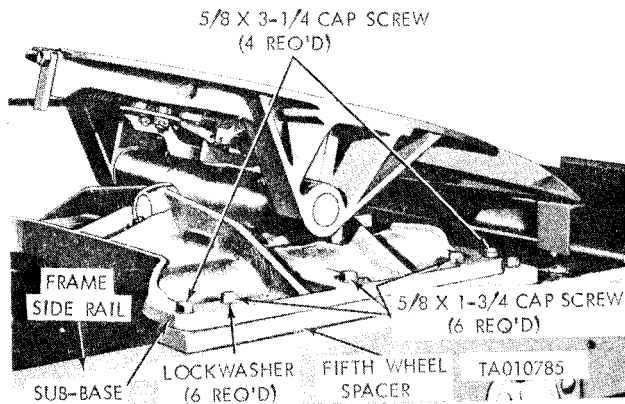
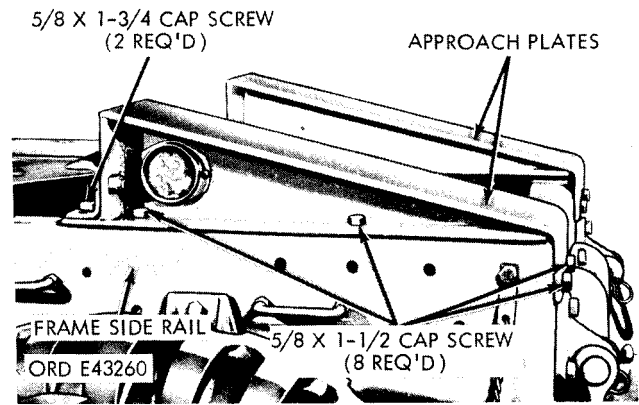
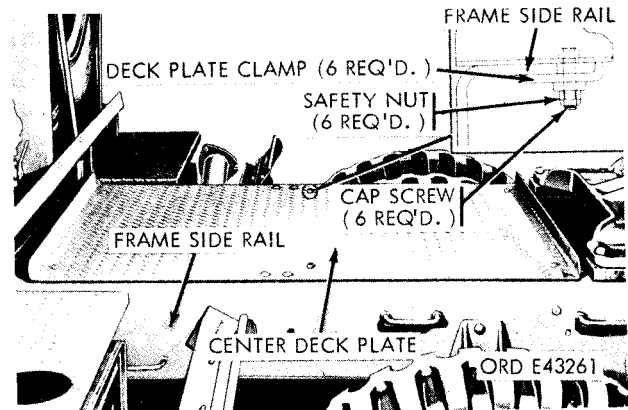

Figure 2-213. Fifth wheel—M52, M52A1, and M52A2.
Figure 2-214. Approach plate—M52, M52A1, and M52A2.
Figure 2-215. Center deck plate—M52, M52A1, and M52A2.
(1) Position the carrier assembly to the frame.
(2) Secure the carrier mounting brackets to the frame with four screws and safety nuts. Tighten the nuts.
*a. General.* The fifth wheel assembly on the above models includes the fifth wheel, the approach plate, and the center deck plate. The fifth wheel (fig. 2-213) is bolted to the inside of the side rails. The approach plate (fig. 2-214) and center deck plate (fig. 2-215) are bolted directly to the frame left and right side rails.
*b. Fifth Wheel (fig. 2-213).*
c. *Approach Plate (fig. 2-214).*
d. *Center Deck Plate (fig. 2-215).*